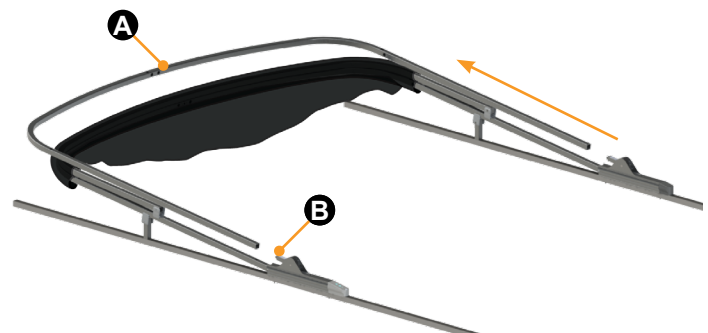

Fig.80
6. Separate the front frame (Fig.80A) from both actuator gear handles (Fig.80).